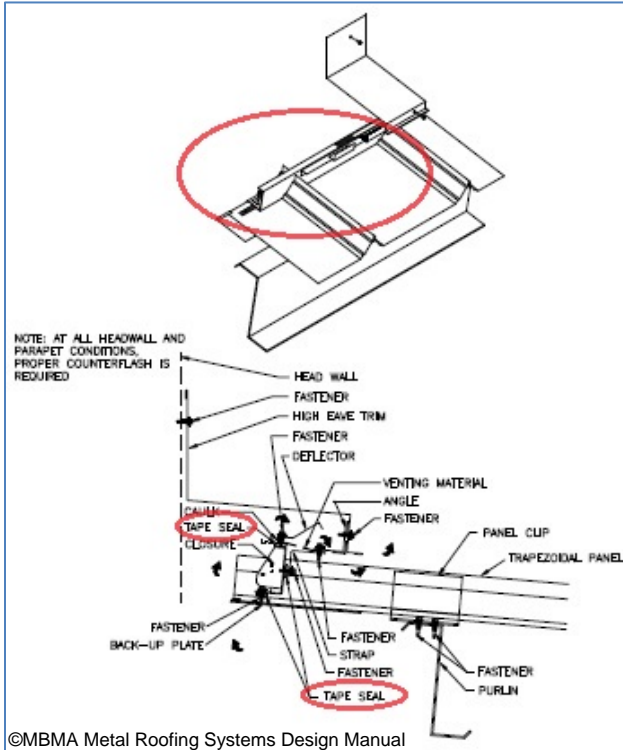

Figure 13-17
- Panel to flashing at parapet conditions (Figure 13-17)